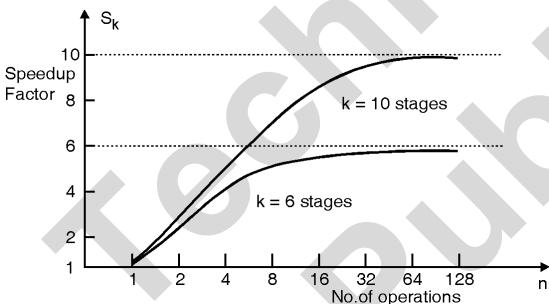

Fig. 10.7.9 : Relationship of speedup factor with the no. of operations
- Hence as the number of instructions n increases, S_k tends to k . Thus, ' **k stage pipeline processor can be at most ' k ' times faster than the corresponding non-pipelined processor.**' The speed up factor as a function of the number of instructions is shown in the Fig. 10.7.9.